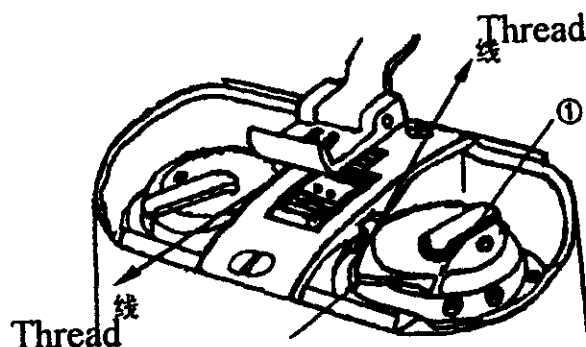
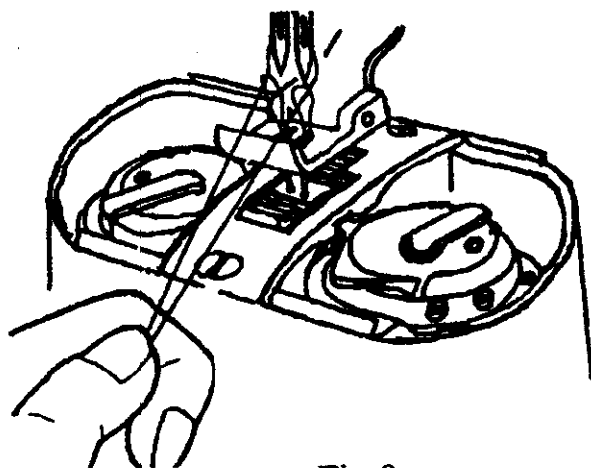

Fig. 7
Fig. 8
## 12、 How to lead the lower thread (Fig.7、 Fig.8):
(1) As shown in fig.7, from the slit (1) pass the thread underneath the hook body, and pull it to the right diagonally, and thread will pass through the tension spring (single needle); From the slit (1) pass the thread underneath the hook body, and pull the left thread to the left and the right thread to the right diagonally, and thread will pass through the tension spring (double needle).
(2) As shown in fig.8, holding the end of upper thread by left hand, turn the balance wheel slowly one around by right hand, the upper thread will hook out pulling the lower thread simultaneously through the hole of needle plate, and leave the lower thread to the other side of the needle plate. Close the slide plate.